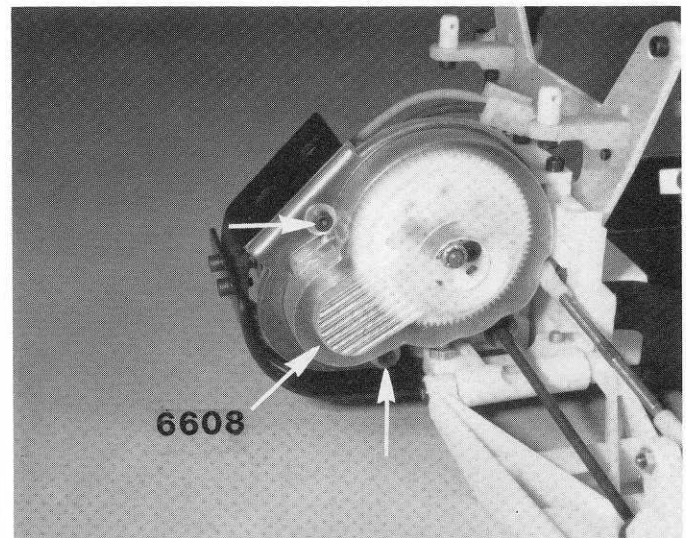

Fig. 142
□ **Figs. 142 & 143** Trim around the outside of the #6608 dust cover, cut out the center button hole and install with two 4-40 x 1/4" SHCS and washers. **CAUTION:** to remove the motor, you must first remove the dust cover. You will then have four screws out that look the same. But if you mix up the dust cover screws with the motor screws, you will strip out the threads. Keep the motor screws with the motor, and the dust cover screws with the dust cover. Also, DO NOT try to use aluminum screws to attach the dust cover, because the screws will break off when mounting the dust cover.